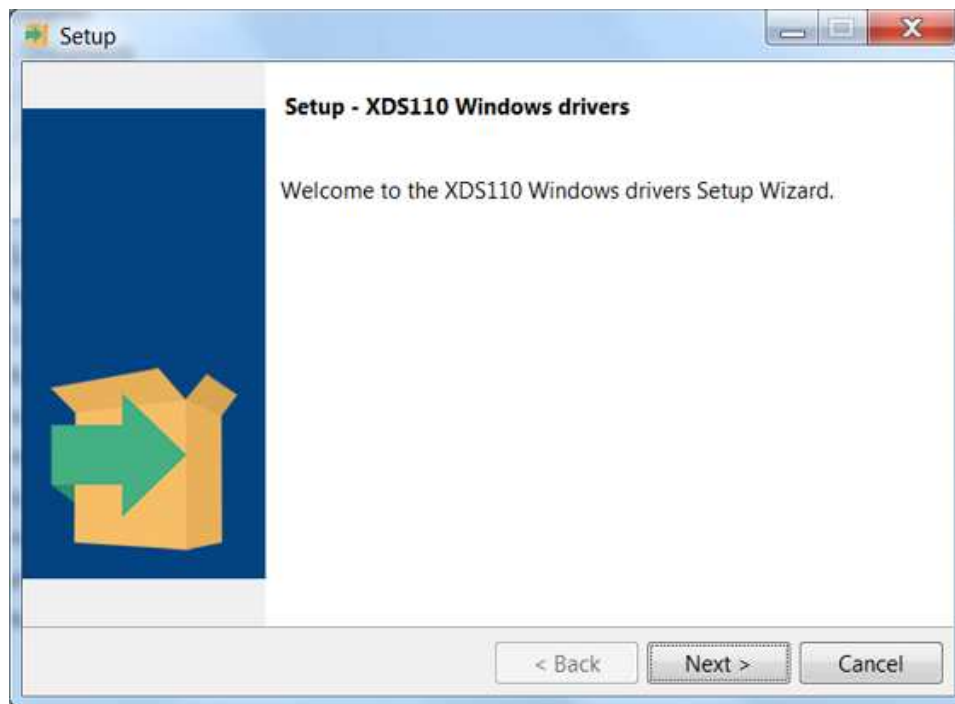

Figure 2-7. Set Up XDS110
- Run the installer in administrator mode and click Next, as shown in Figure 2-7.